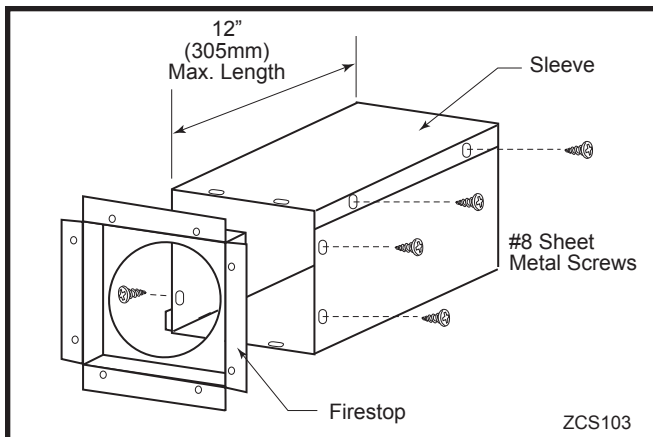

Fig. 24 Assemble the wall sleeve and firestop.
3. Measure the wall thickness and cut the wall sleeve sections to proper length (MAXIMUM 12"). Assemble the sleeve with the #8 sheet metal screws supplied. Attach the firestop plate to the sleeve end with the holes. (Fig. 24) **NOTE:** The wall sleeve is required in combustible walls only.
Attach the firestop plate to the sleeve end with the holes. (Fig. 24) **NOTE:** The wall sleeve is required in combustible walls only.
3. Install the Wall Firestop/Sleeve assembly into the wall cutout and fasten the firestop to the wall cutout framing members. (Fig. 24)